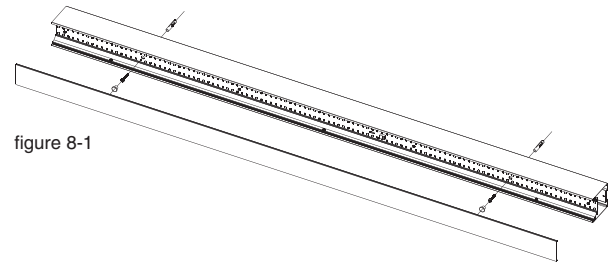

figure 8-1
- b. Slide suspension brackets to allow steel cables to hang straight as needed. Re-attach end caps using screwdriver as shown in **Figure 8-1**. Remove protective film coating from fixtures before using.
- a. First, unpack the fixture and remove the end caps and diffuser. **Fig 8-1.**